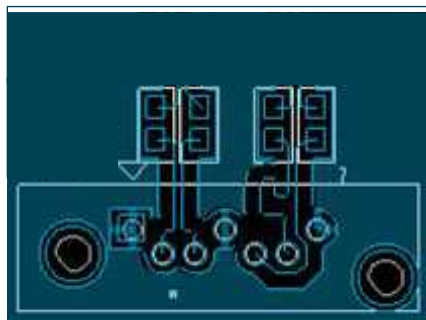
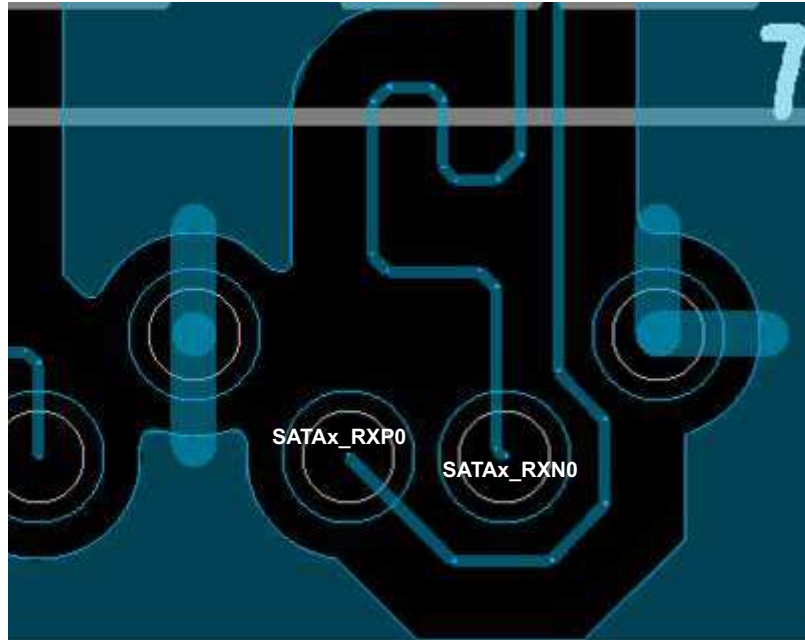

Figure 8-91. SATA Routing
Figure 8-92. Close Up of SATA Routing
2. Use the method pictured below in Figure 8-91 and Figure 8-92 to route to the SATA connector. This method results in lines that are still length matched, and still on just one single layer.